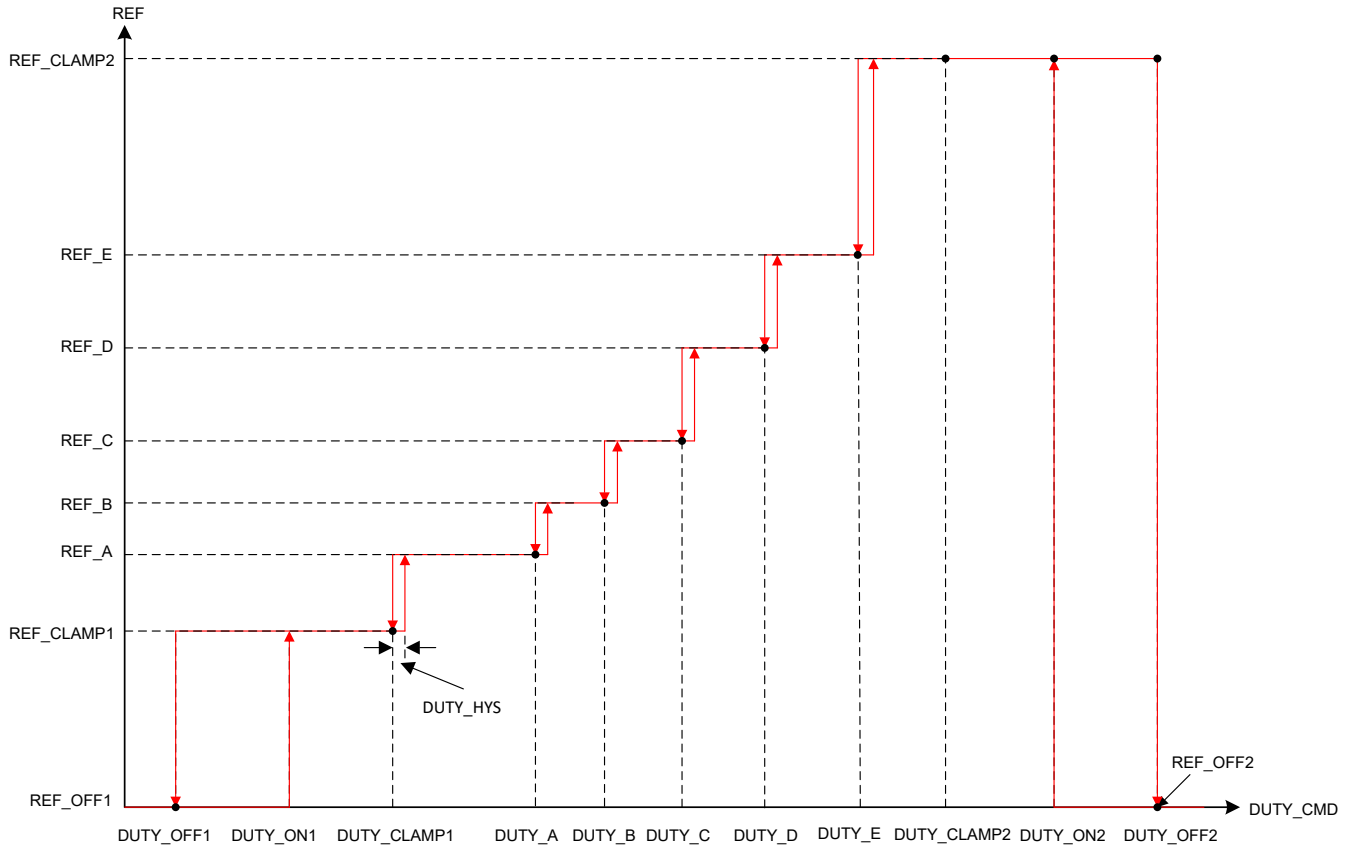

**Figure 6-21. Staircase Control Profiles**
- DUTY\_OFF1 and DUTY\_ON1 configures a hysteresis around reference control input REF\_CLAMP1 and REF\_OFF1 as shown in Figure 6-21.
- DUTY\_A configures the duty command for reference REF\_A. There is a step change in reference from REF\_CLAMP1 to REF\_A at DUTY\_CLAMP1. DUTY\_A to DUTY\_E has to be in the same order as shown in Figure 6-21.
- DUTY\_OFF2 and DUTY\_ON2 configures a hysteresis around reference control input REF\_CLAMP2 and REF\_OFF2 as shown in Figure 6-21.